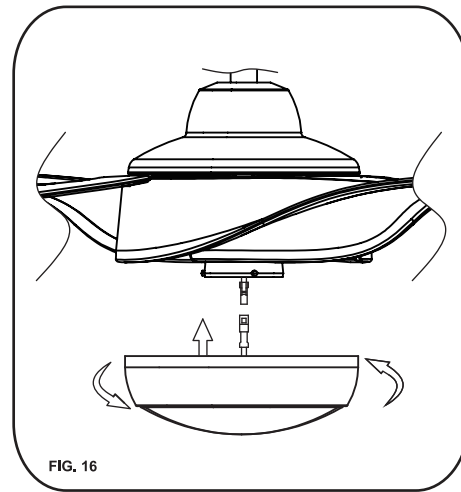

FIG. 16
Step 1. While holding the 20W LED assembly under your fan, firmly snap the wire connection plugs together. (Fig. 16)
Step 2. Attach the 20W LED assembly to the switch box by twisting it tightly. (Fig. 16)